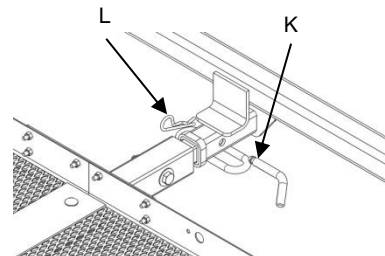

Fig 5
- Slide Cargo Carrier adapter into hitch so that hitch holes and adapter hole is aligned. Insert 1/2" hitch pin and secure with clip (Fig 5)